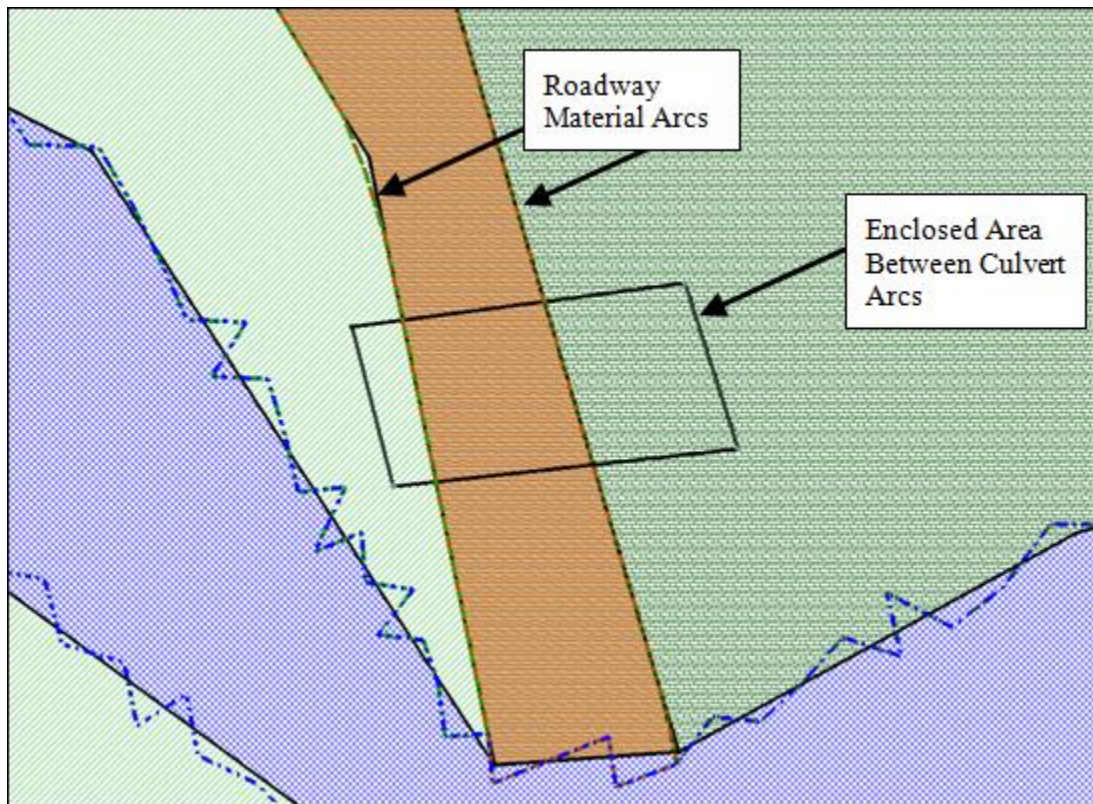

Figure 6 Enclosed Area Between Culvert Arcs and Roadway Material Arcs
3. Using the **Create Feature Arc**  tool, draw one or more arcs enclosing the area between the two culvert arcs. If drawn correctly, the arc should close upon itself and appear similar to Figure 6.